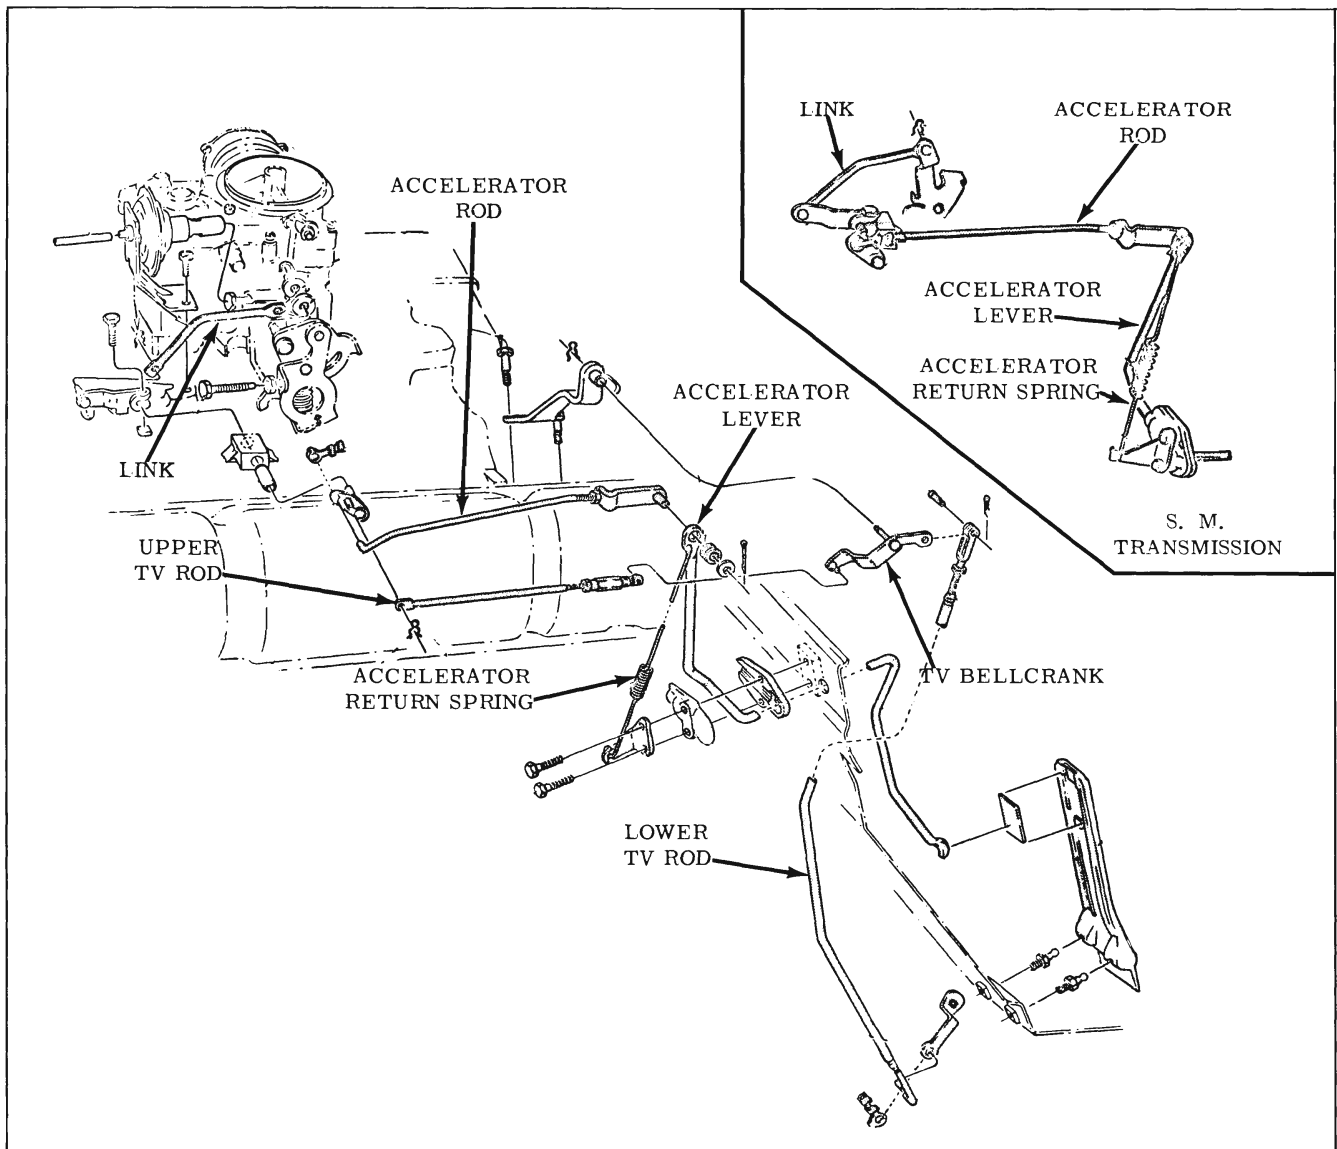

Fig. 3-327 2GC Throttle Linkage
3. Disconnect the upper and lower T.V. rod from the T.V. bellcrank. (Fig. 3-327)